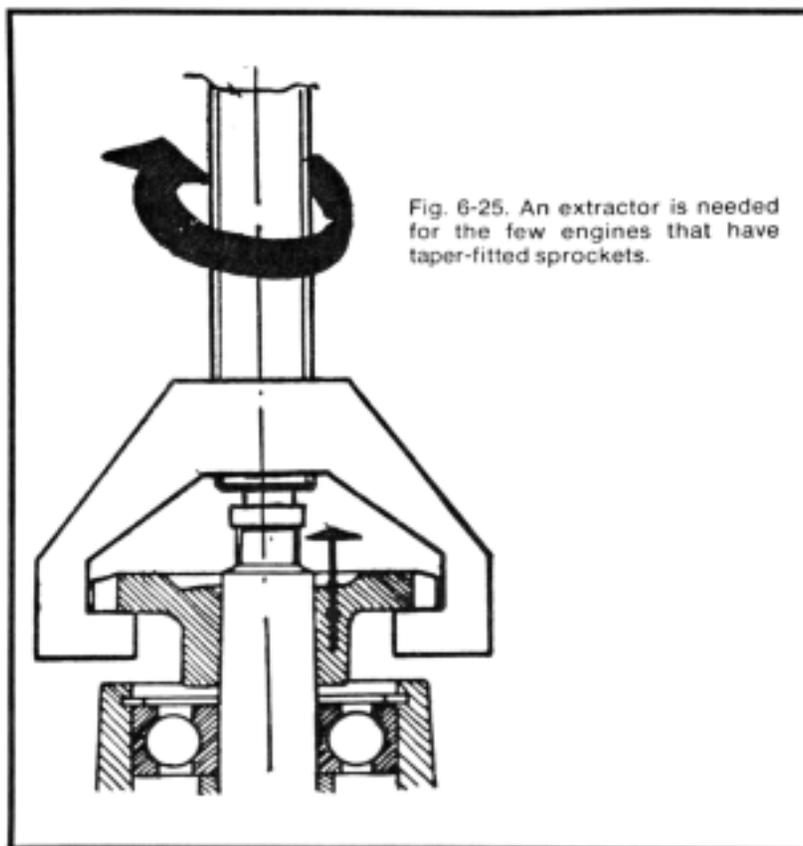

Fig. 6-25. An extractor is needed for the few engines that have taper-fitted sprockets.
**Clutch and Pedal Assembly.** Remove at least one pedal arm assembly, tapping out the pinch bolt with a brass punch, and file any burrs that may be left on the pedal shaft. Burrs could damage the oil seal. If required, remove the sprocket and the clutch assembly. Most sprockets are held by bolts and splines; a few have the additional security of a taper fit. Figure 6-25 shows a sprocket extractor. Clutches are (almost universally) pressed on tapered shafts; a few are held by splines and snap (Seegar) rings. Pressed clutches are withdrawn with a smaller version of the familiar flywheel extractor. These tools are sometimes available from bicycle dealers as well as moped distributors.